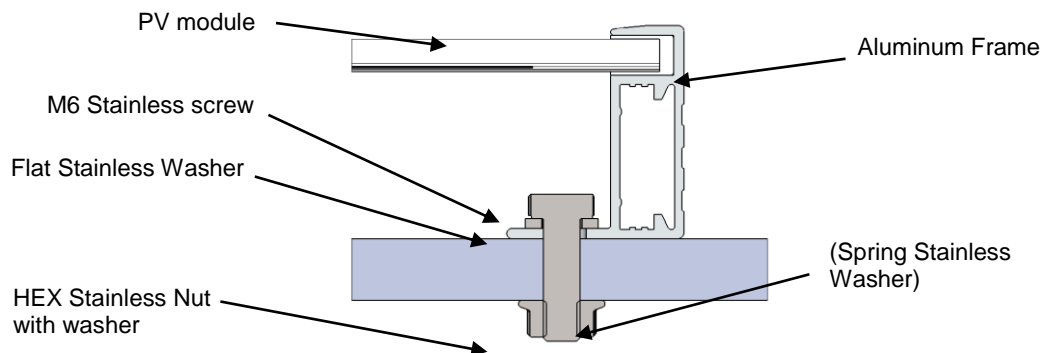
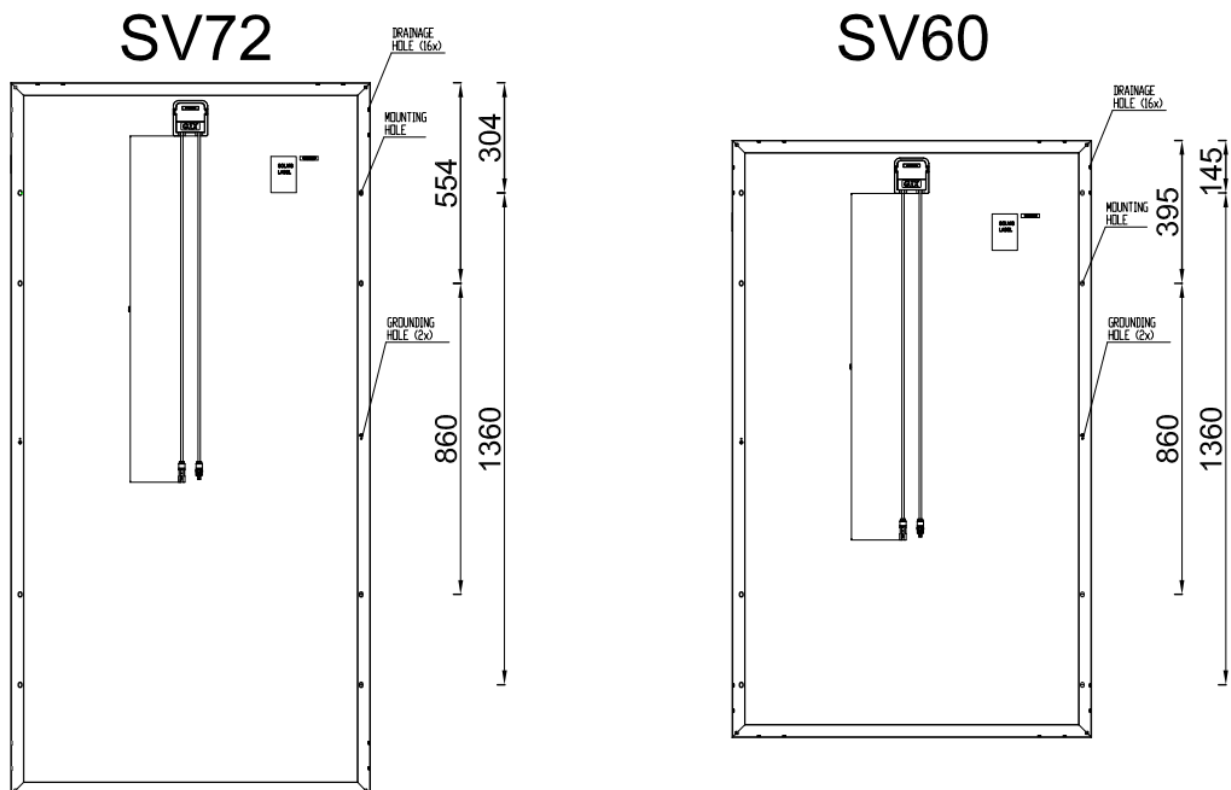

Figure 1. Screw fitting (for illustration only)
Figure 2. Positions of mounting holes, SV72 and SV60
Modules may be mounted at any angle from horizontal to vertical with exclusions mentioned in this manual. Select the appropriate orientation to maximize sunlight exposure. Specific information on module dimension and the location of mounting and grounding holes is provided below (Figure 2). We recommend that PV modules are mounted at a minimum tilt angle of 6° with respect to the horizon, in order to facilitate the self-cleaning of their front glass from dirt during ordinary raining.
- 1) **Frame Holes:** Secure the module to the structure using the factory mounting holes. Four M6 (1/4") stainless steel bolts, with nuts washers, and lock washers are recommended per module (*Figure 1.*). Position of mounting holes for module types SV60 and SV72 can be seen on figure 2, for other type of modules, please check relevant datasheet.